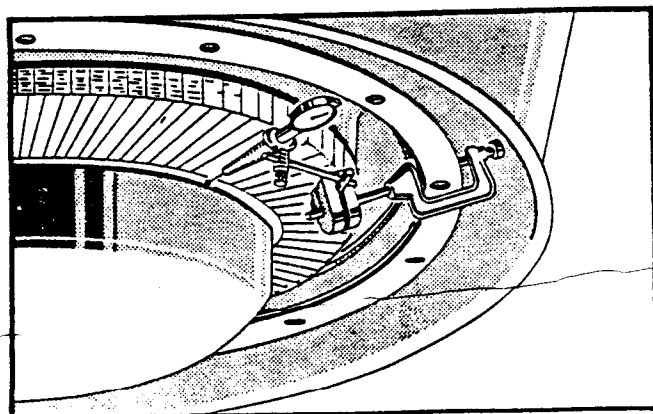

Figure 10. Checking Axial Play of Rotor
13. TOTAL END (AXIAL) PLAY OF ROTOR.- With the exhaust hood still removed, relocate the indicator so that the pointer of the indicator rests on the flat rim of the wheel disc. (See figure 10.) Move the bucket wheel up to check the total end play of the rotor for bearing wear. If the total end play is greater than 0.011 inch, replace the turbosupercharger.
19. **BUCKET WHEEL RUN-OUT.**- Mount the indicator so that the contact point rests on the flat rim of the wheel disc. This is the same position as for checking axial play. (See figure 10.) The wheel rim must be thoroughly scraped and cleaned, as carbon deposits on the rim will affect the indicator readings. Cleaning by a wire brush is not sufficient. Revolve the bucket wheel slowly by hand and locate the high and low points on the wheel rim. Also look for evidence of cracks or distortion. If the difference between the high and low points is greater than 0.005 inch, or if any crack is observed in the wheel disc, replace the turbosupercharger.